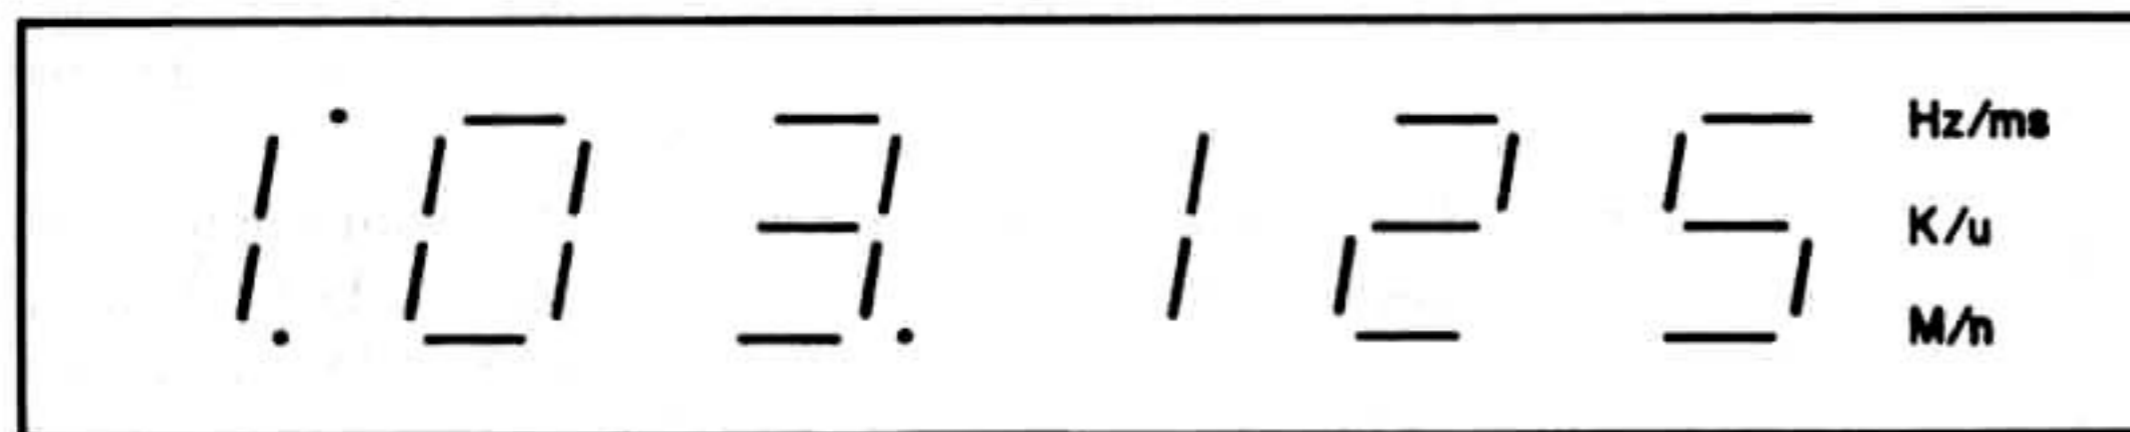
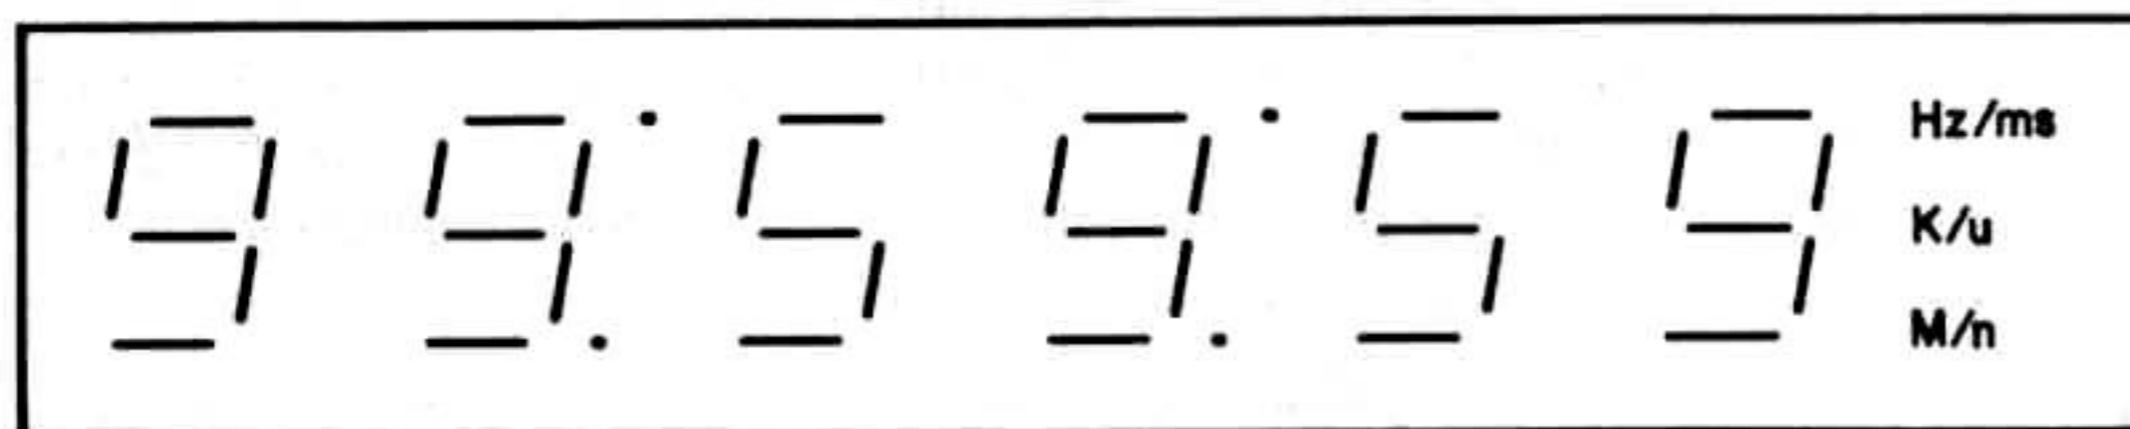

Fig. 10 Display After 63.125 Seconds
Fig. 11 Display After 99 hrs:59 min: 59 sec
- Beginning at zero, the unit will immediately start to display elapsed time in seconds with 100 μ S resolution. At sixty seconds the unit begins displaying time in a floating format with units of hours, minutes and seconds as necessary. Hours, minutes and seconds digits are separated by colons; fractional seconds follow the decimal point. Fig. 10 shows the display after 63.125 seconds have elapsed. The unit displays this time as "1 min:3.125 sec." Note that as each leading digit is added, the least significant fractional second digit is dropped from the display, until finally the least significant digit is whole seconds. Fig. 11 shows the largest time displayed, "99 hrs:59 min:59 sec." Overflow is indicated at 100 hours by a dashed line across the display.